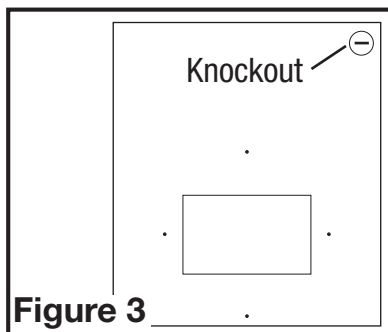

Figure 3
6. Install the included plastic bushing into the knockout hole to protect the wires (**Figure 3**).
7. Feed the heating unit's electrical connector through the knockout hole and connect to the 3 pin connector from the control inside the main unit (**Figure 3**).